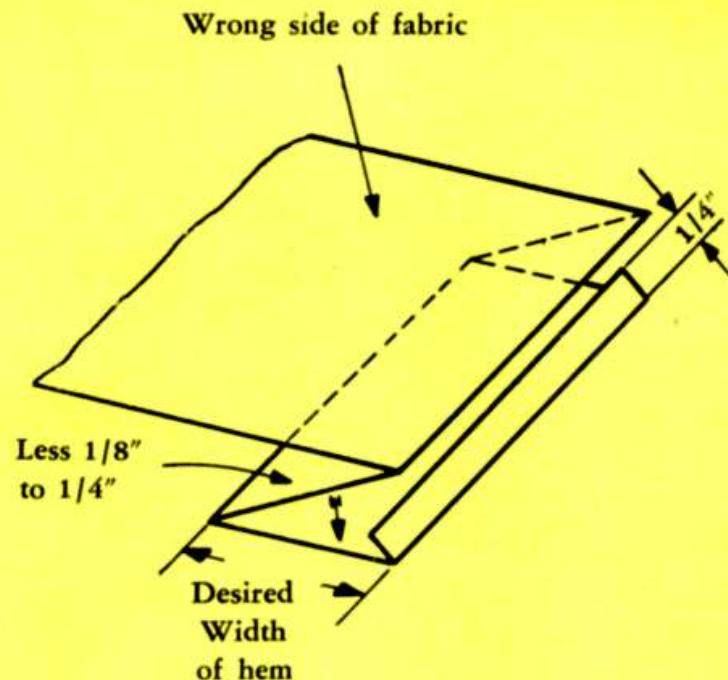

Fig. 29
- 3) Fold almost the entire width of the hem toward the right side of the garment (see Fig. 29), leaving only about  $1/8''$  to  $1/4''$  of hem exposed. The blindstitching will then be done on this exposed area.